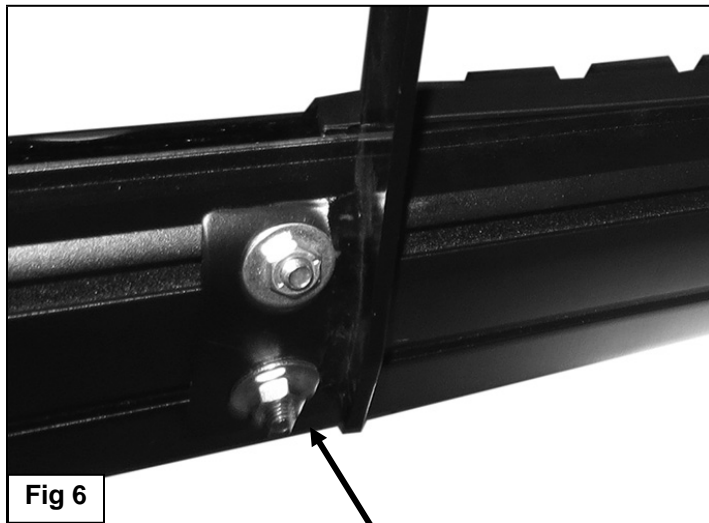

Fig 6
- Line up the front of the Sidebar approximately 2" back, (or locate as desired), from the front wheel opening. Attach the Sidebar to the Mounting Brackets with (4) 8mm Flat Washers, (4) 8mm Lock Washers and (4) 8mm Hex Nuts, **(Figure 6)**. Do not tighten hardware at this time.